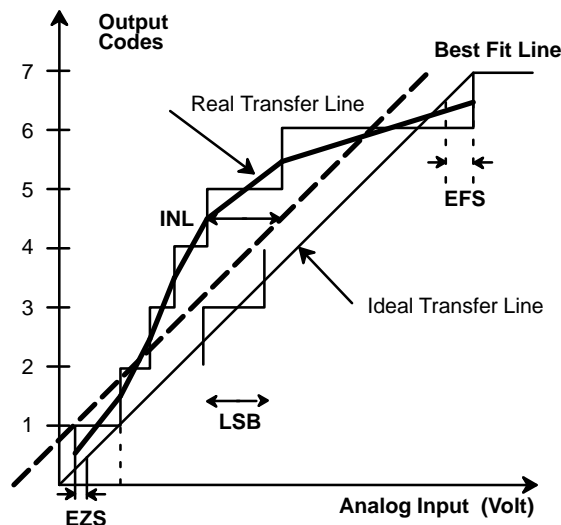

Figure 7. INL Error Calculation
- Tester measures code transition voltages by dithering the voltage of the analog input (V_{IN}). The difference between the measured code width and the ideal value ($V_{REF}/1024$) is the DNL error (see Figure 5.). The INL error is the maximum distance (in LSBs) from the best fit line to any transition voltage (See Figure 7.).
Figure 7. gives a visual definition of the INL error. The chart shows a 3 bit converter transfer curve with greatly exaggerated DNL errors to show the deviation of the real transfer curve from the ideal one.